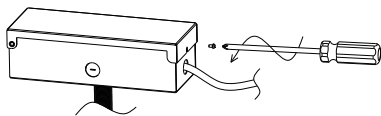
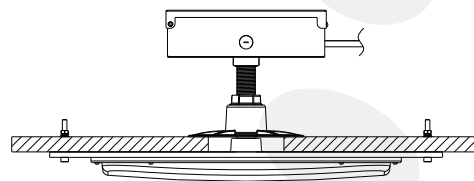

Figure 9
Figure 10
9. Finally, assemble the driver box. (Figure 9)(Figure 10)